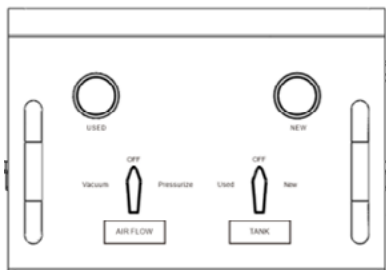
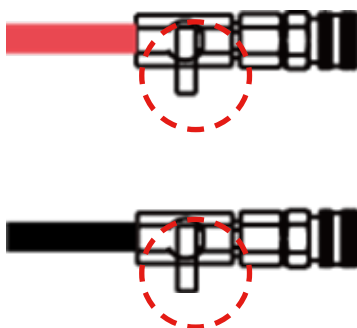

Fig 1.
Fig 2.
1. Initial position (Fig.1, Fig. 2, all valves closed)